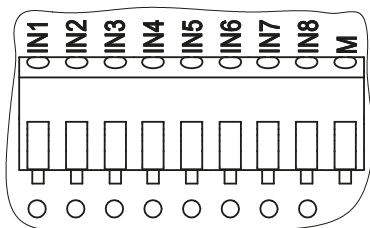

Fig. 4: Inputs
- ③ Spring terminal 9-pole (see Fig. 3 and Fig. 4)